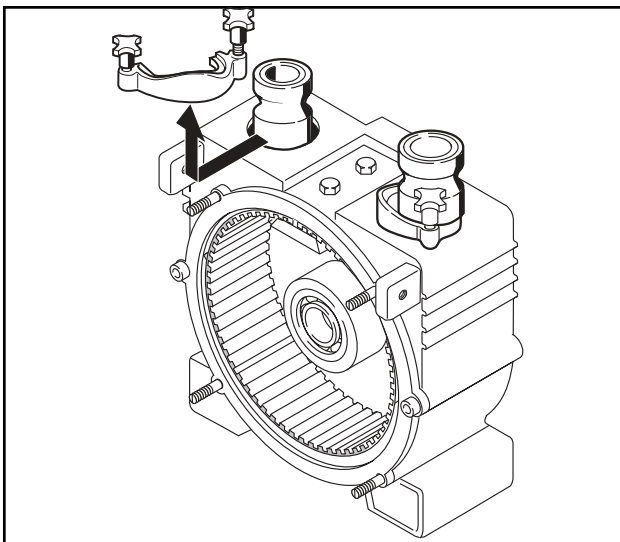

Fig. 10
7. Loosen and remove both holding clamps and pumping hose (Fig. 10).